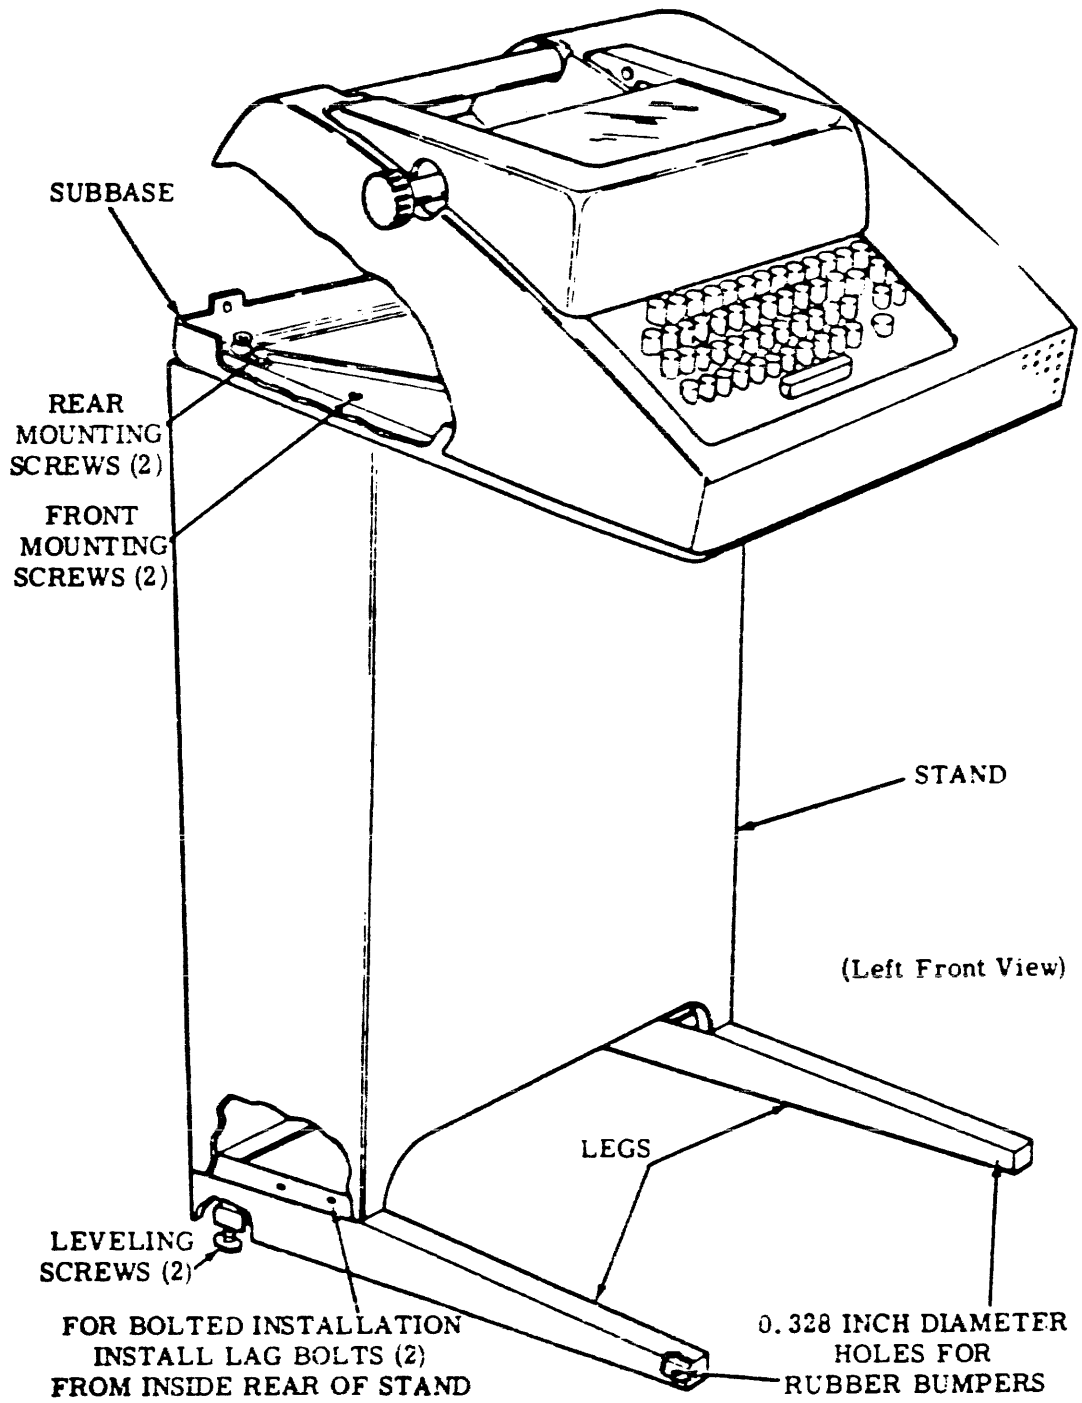

Figure 3-5. Model 33 and Stand
i. If the teletypewriter set is to be bolted to the floor, remove the front screw in each leg of the stand (Figure 3-5).